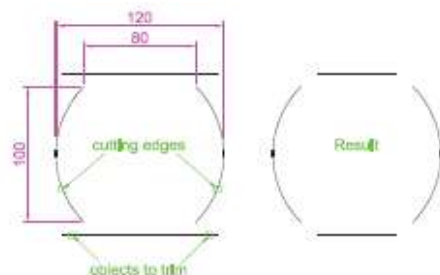

Fig. 5.32 Second example – Trim
Second example – **Trim** (Fig. 5.32)
1. Construct the left-hand drawing of Fig. 5.32 .
3. Repeat for the other required trims. The result is given in Fig. 5.32 .